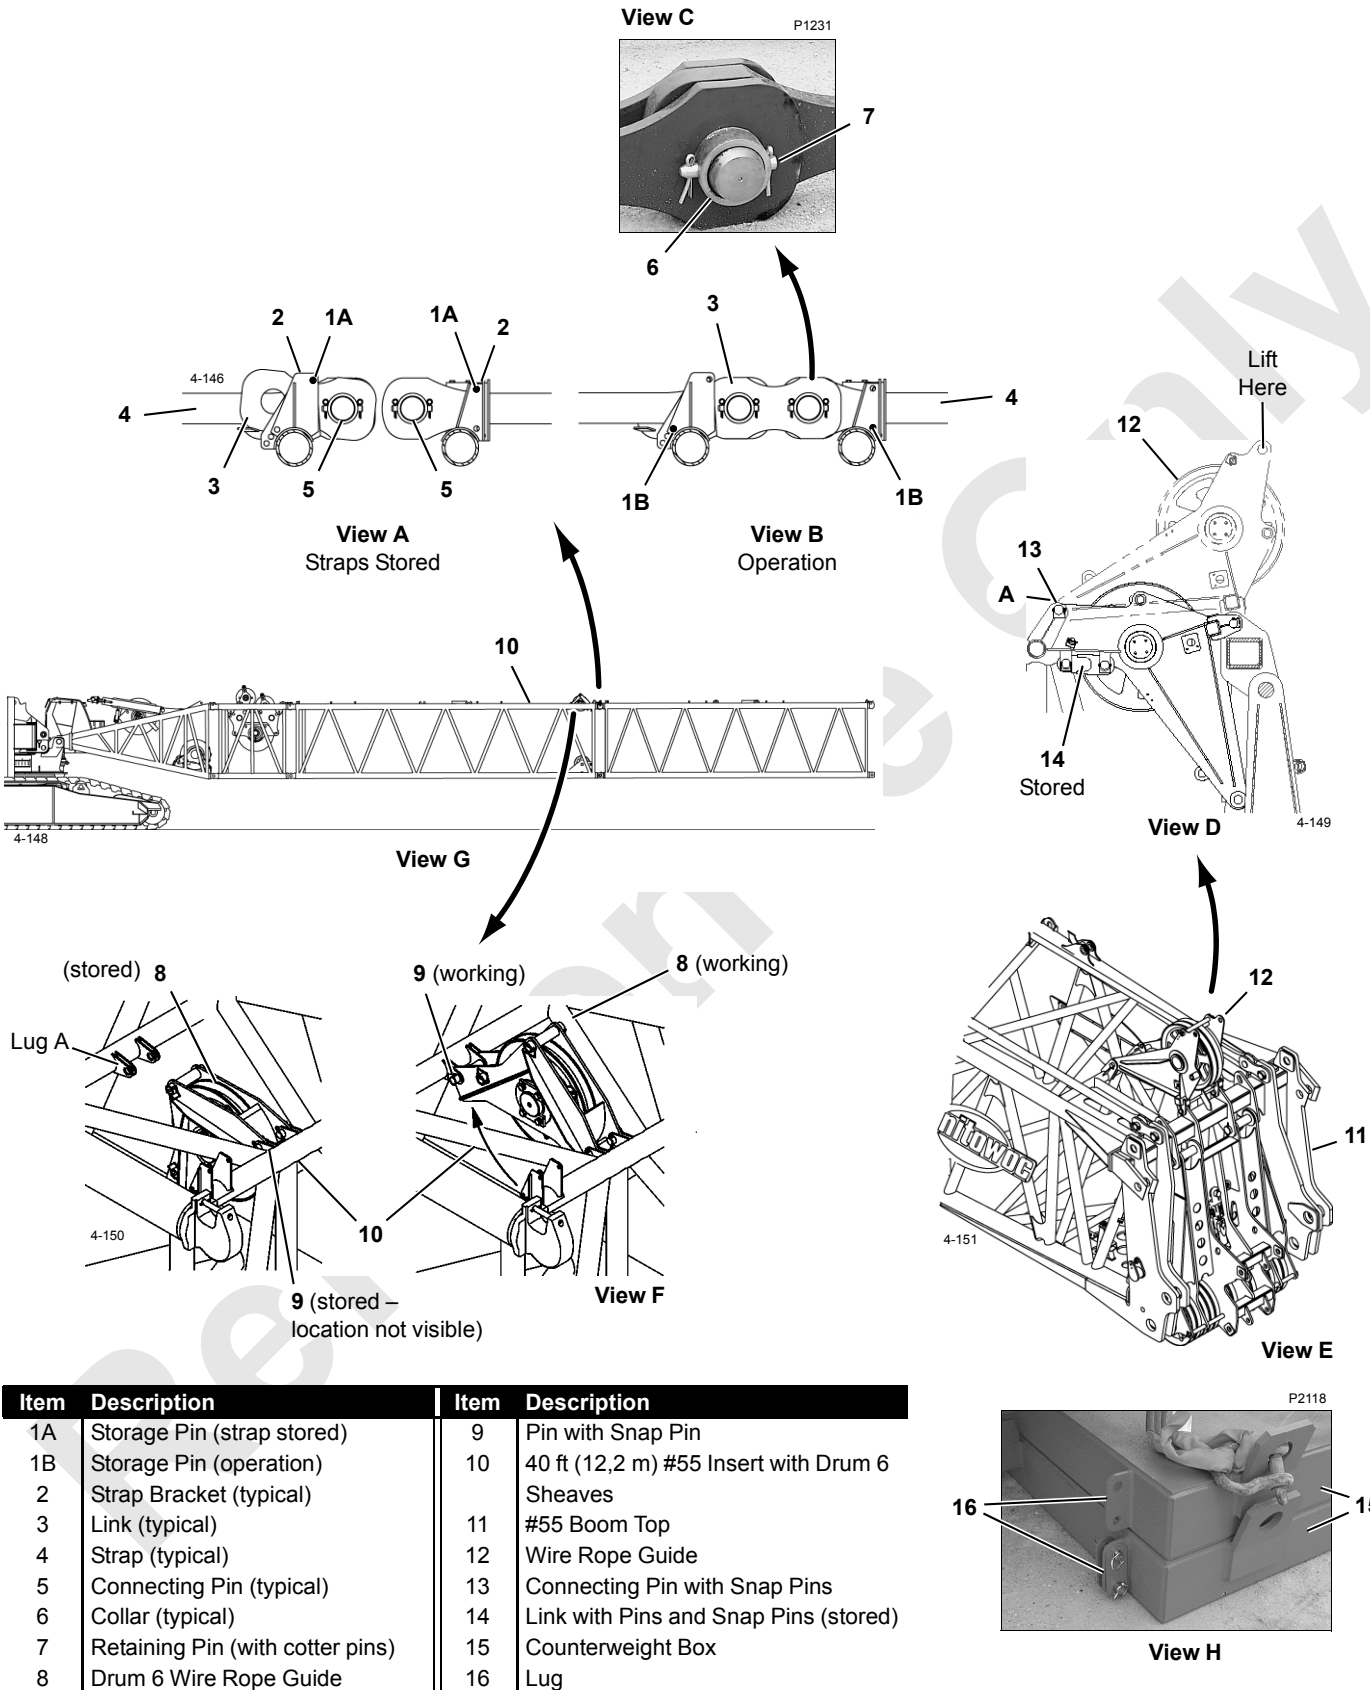
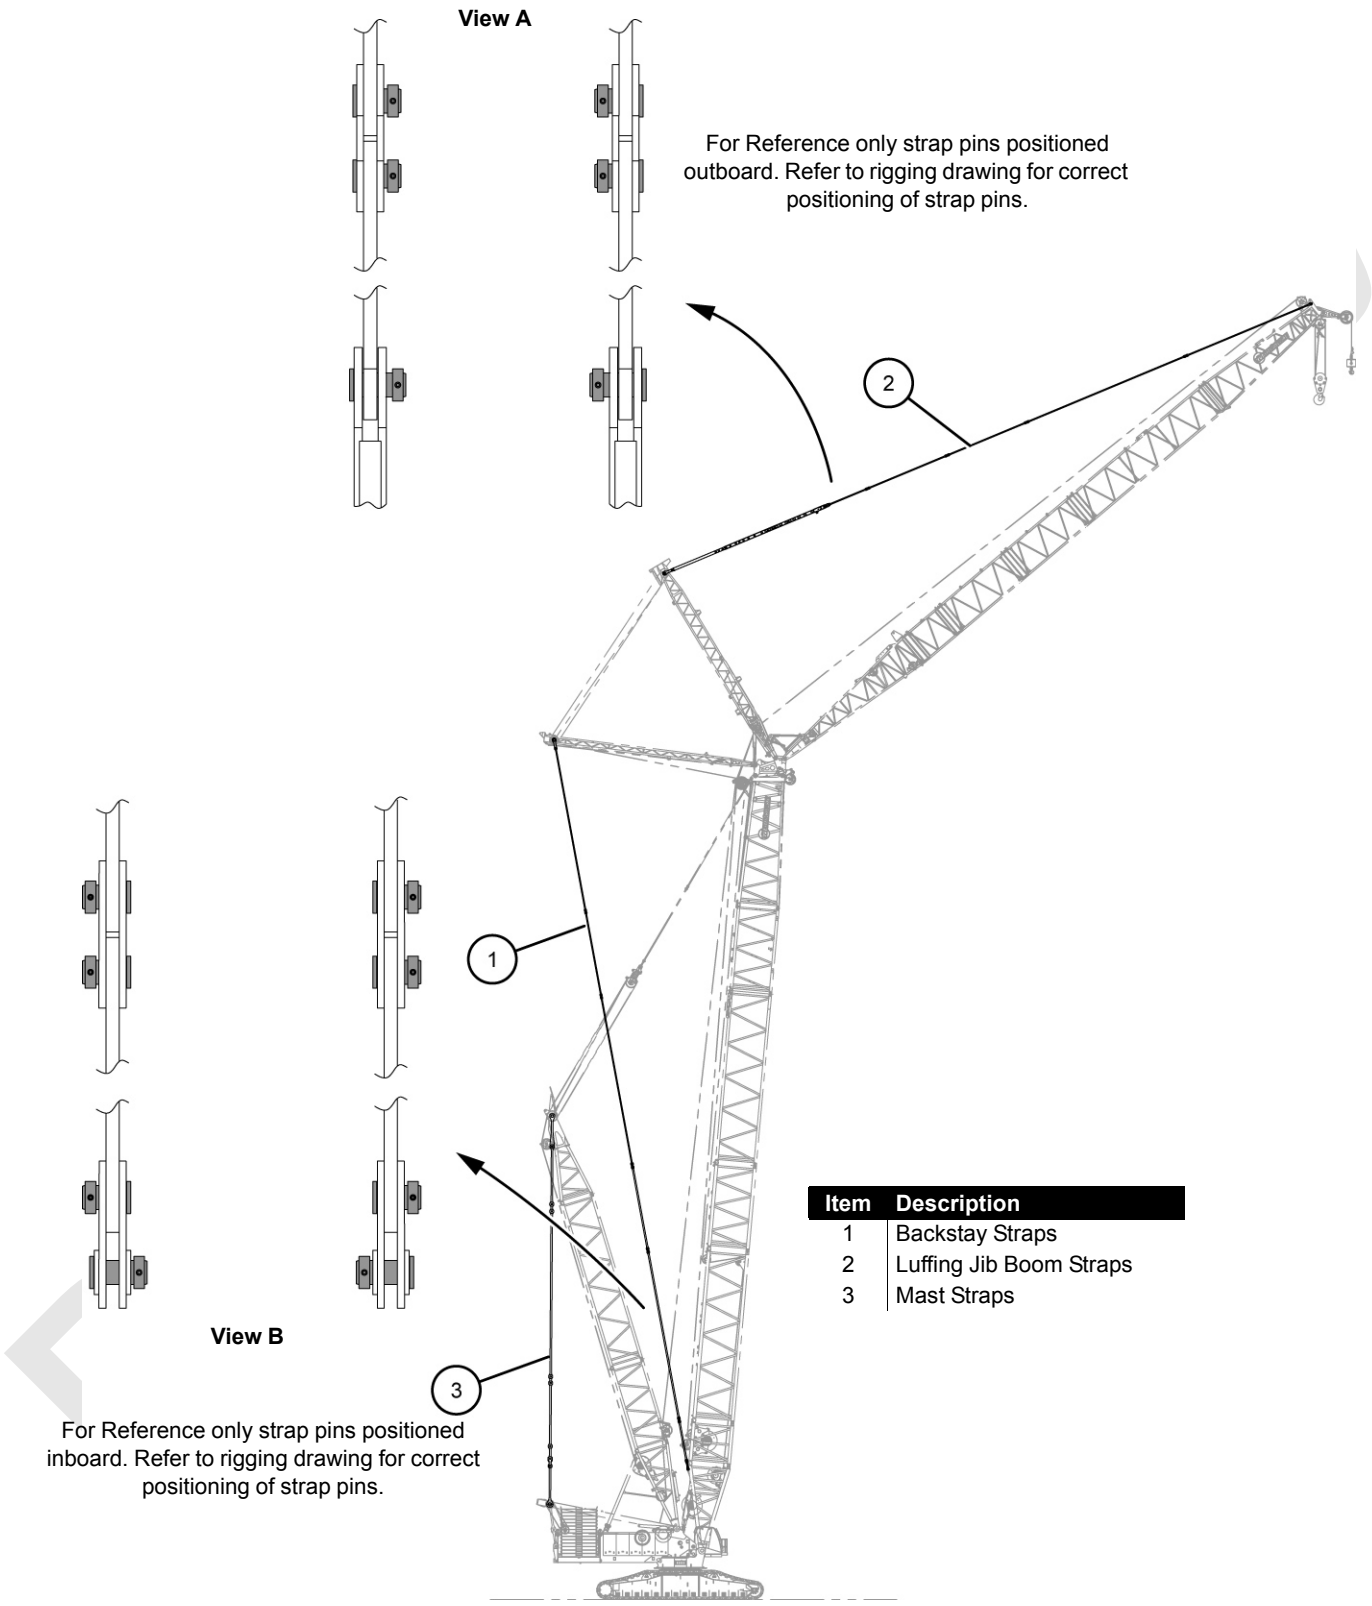

FIGURE 4-19
FIGURE 4-20
See Figure 4-19 for the following procedure.
10. If necessary, add lugs (16) for counterweight tie links to top crane counterweight boxes (15), one on each side, as shown in Figure 4-19, View H.
See Figure 4-19 and Figure 4-20 for the following procedure.
To prevent interference between pins, heads of luffing jib boom strap pins must face outboard sides of boom. Heads of luffing jib backstay strap pins must face inboard as shown in Figure 4-20.